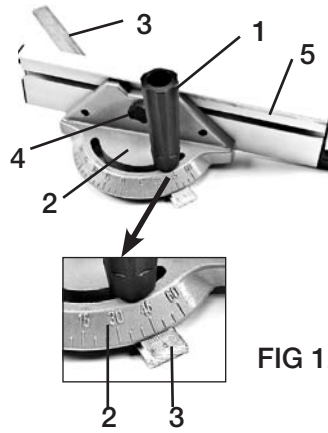

FIG 12
MITER GAUGE ADJUSTMENT (FIG 12)
To adjust the miter gauge angle, loosen miter gauge lock handle (1) and rotate the miter gauge body (2) so that the "0" mark on the end of the sliding bar points to desired position. Then tighten the lock handle. See FIG 12.
To adjust the Miter Gauge Fence, loosen the lock knob (4) and slide the fence (5) to the desired position. Then tighten the lock knob (4). (See FIG 12)